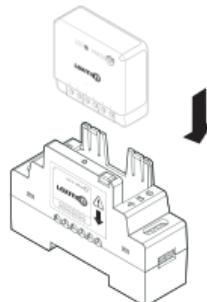

figure 2
3. Insert the receiver into the DIN rail box, observing the direction of insertion of the receiver (see figure 2). Check that the terminals are unscrewed and make sure not to bend the pins inside the box.